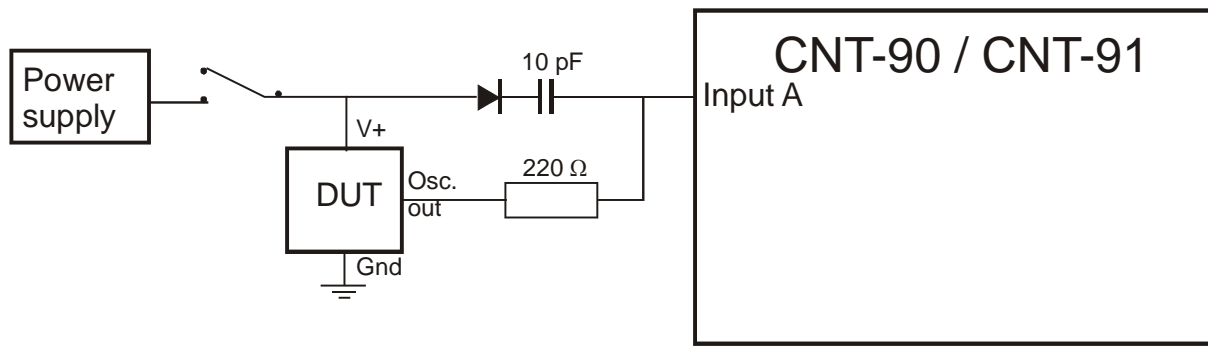

Figure 1. Set-up for Oscillator start-up measurements
1. Connect the supply voltage to the oscillators under test (DUT) via a capacitor plus diode to the input A of CNT-90 or CNT-91 (fig.1)
2. Connect the output of the DUT via a resistor to the input A (same input!) of CNT-90 (fig.1)